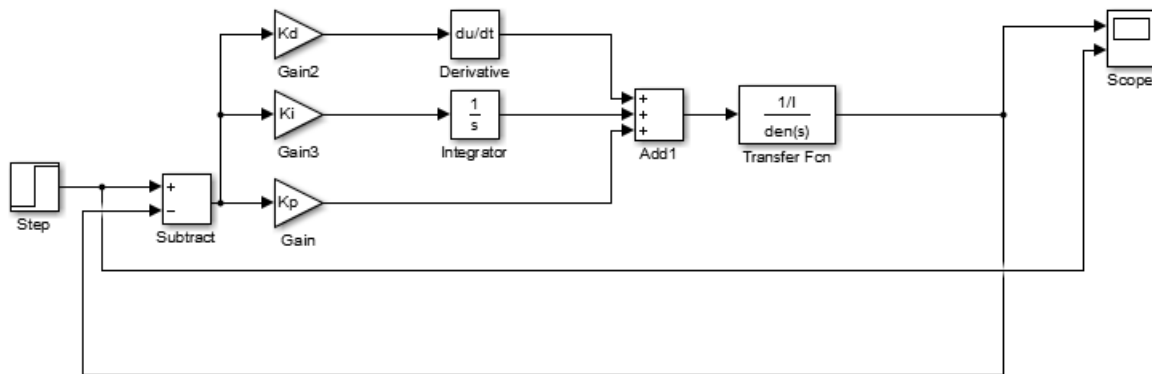

Figure 6
1. For this lab exercise, we are going to use Simulink and the available blocks that can be dragged from the Palette Browser under the “Continuous time systems” tab. You are going to create a schematic as shown in Figure 6.